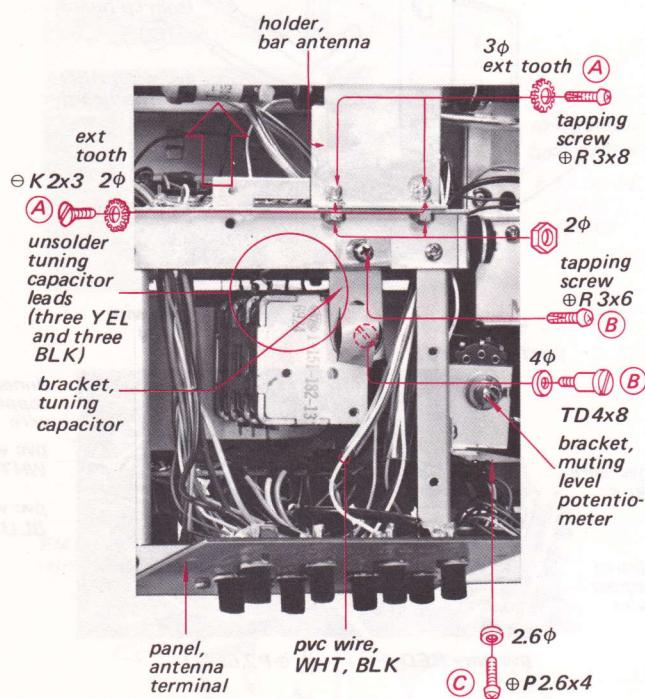

Fig. 2-16
2. Remove the four screws marked **(A)** in Fig 2-16.
9. Remove the circuit board in the direction shown by the arrow in Fig. 2-16.